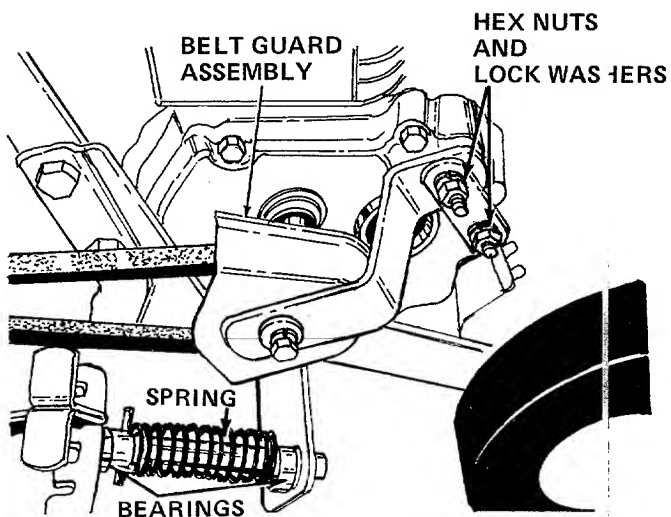

FIGURE 20
**Shaft** - Lubricate the two bearings and under the compression spring on the shaft with light oil at least once a season. See figure 20.
1. To remove the V-belt, remove the belt guard assembly at the engine pulley. Remove the hex nuts and lock washers. See figure 20.